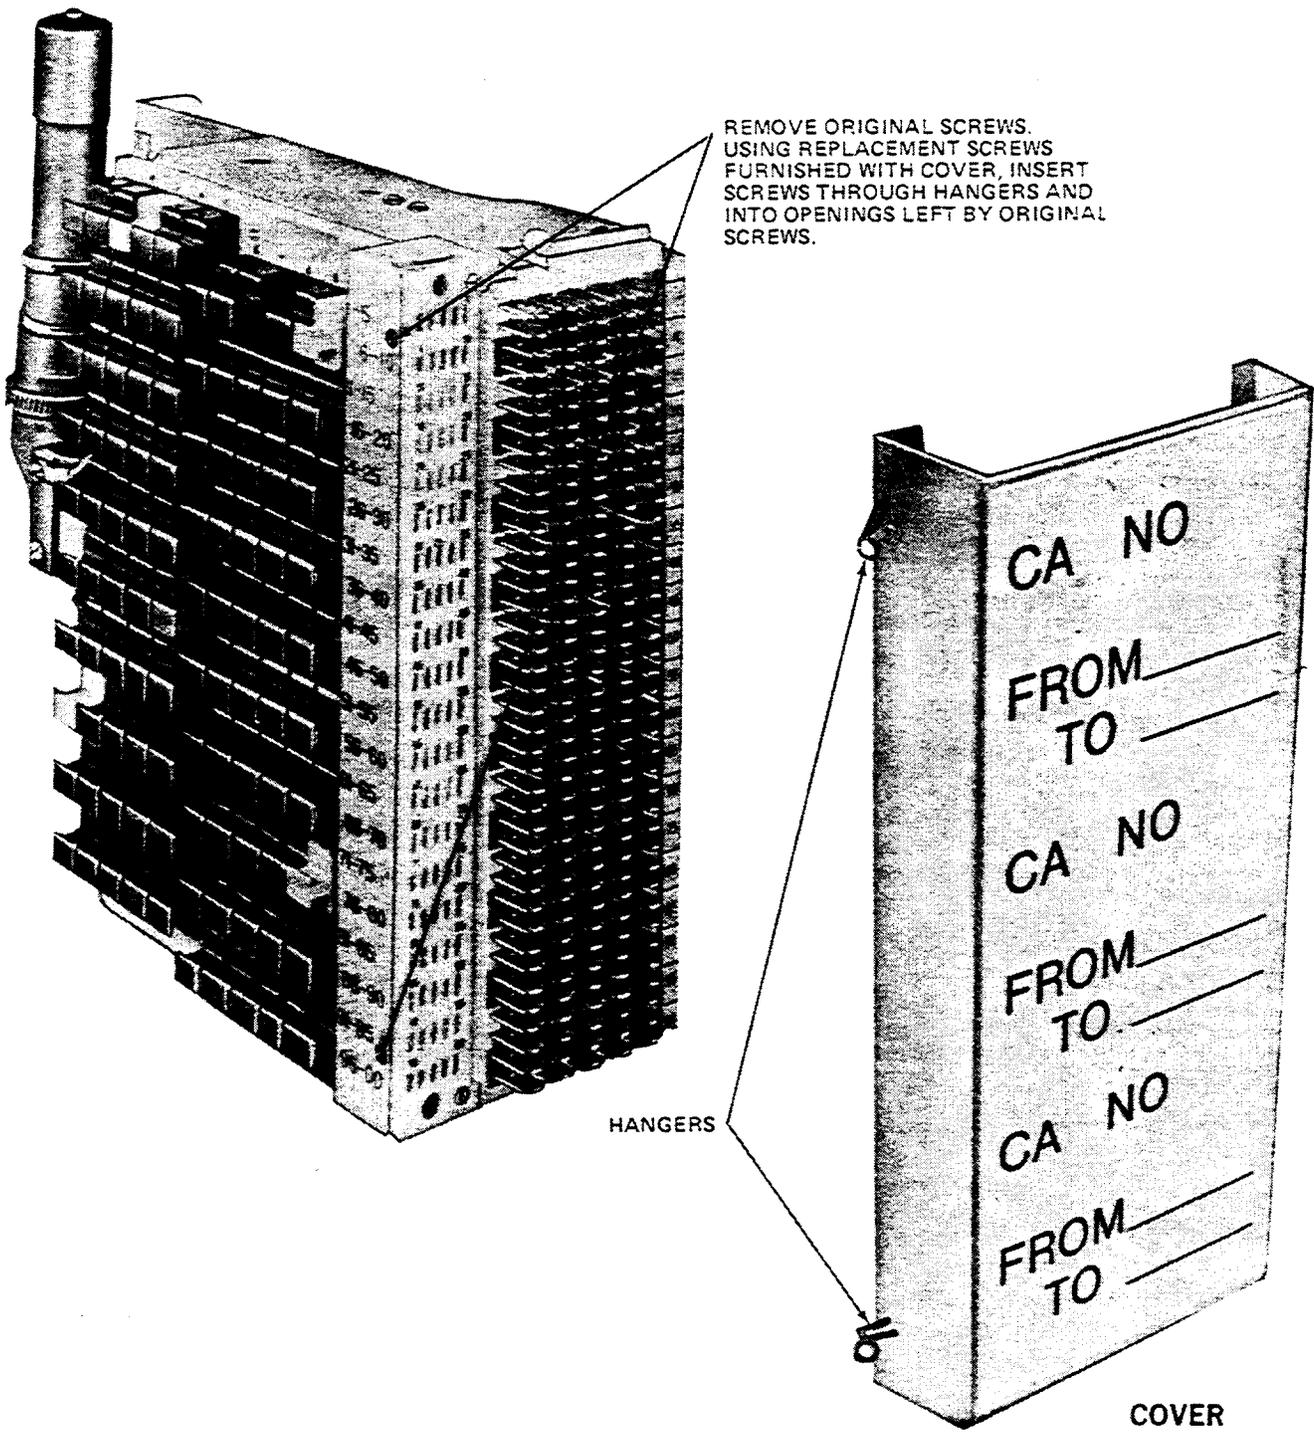

Figure 12. Installing Cover on Connector
3.12 Mount the cover on the connector as shown in Figure 12.